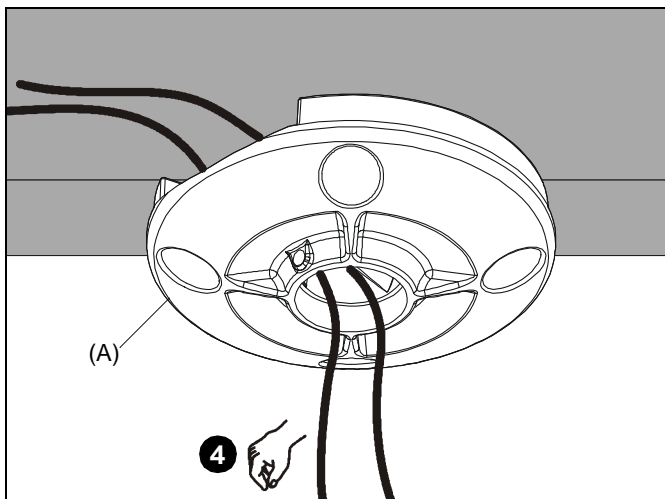

Figure 3
- Route cables through channel in ceiling plate (A) (See Figure 3).